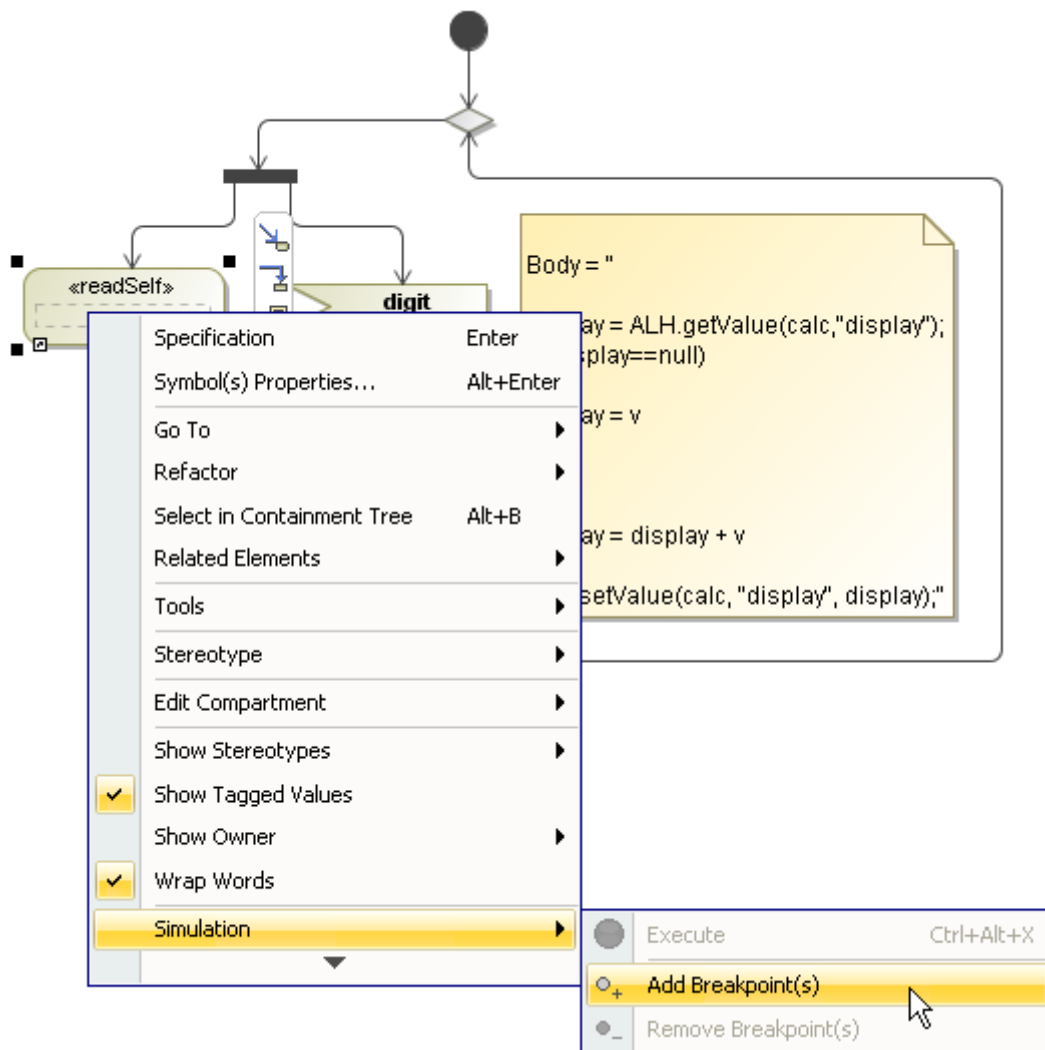

Figure 34 -- Adding a Breakpoint(s)
- Right-click a model element in either the containment browser or the symbol of the model element in a diagram, and then select **Simulation > Add Breakpoint(s)** (Figure 34).